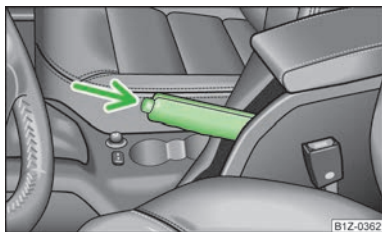

Fig. 95
- Pull the handbrake lever up slightly and **at the same time** push in the locking button » Fig. 95.